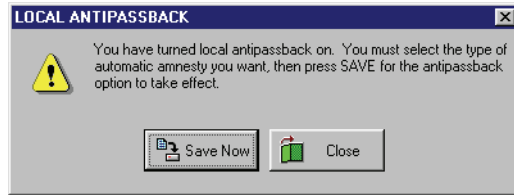

Figure 2-9: Enabling Local Anti Passback Confirmation
- To enable APB, click in the APB ON check box. A check mark appears in the APB ON box and the following window appears (see Figure 2-9).